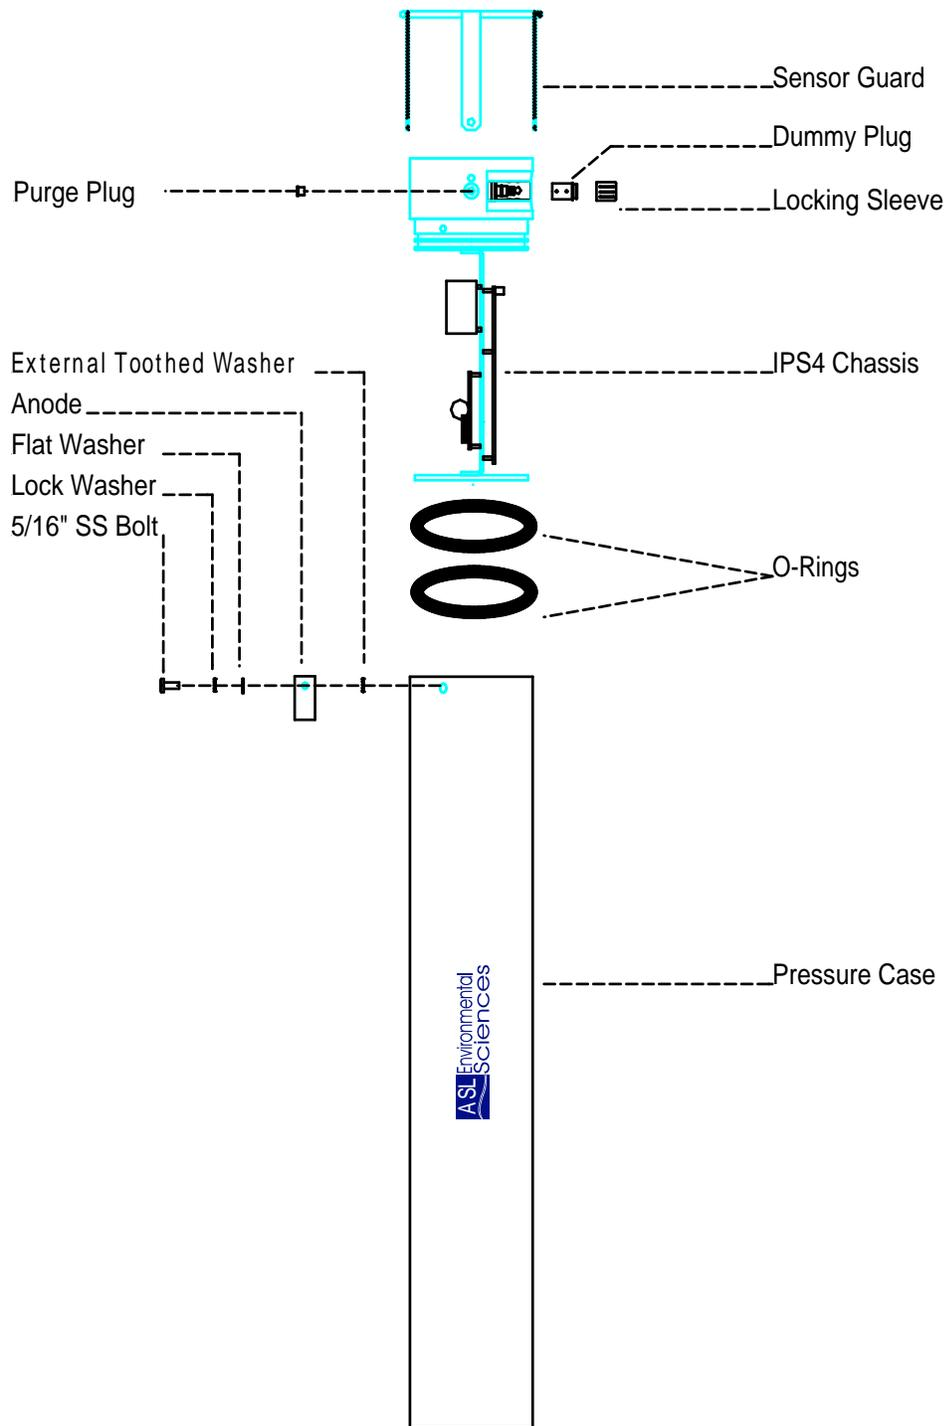

Figure 7
It can now be lowered into the pressure case. Align the end cap so that the holes on the pressure case line up with the holes on the end cap. Slowly place the electronics chassis into the pressure case. Push evenly on opposite sides of the end cap to seat it against the upper portion of the pressure case. The anodes should be checked and replaced if necessary to ensure adequate corrosion protection. See section 2.5 Anode Installation for further instructions. Replace the sensor guard and insert and tighten the three retaining bolts and hardware. Inspect the O-ring on the purge plug and place the plug back in to the end cap. **Note; The purge plug must be replaced before the instrument can be placed in the water.** See Figure 7 for a full assembly drawing.
A full chassis assembly drawing follows: (Figure 7)
- Unplug the Interface cable from the IPS4 and insert the Dummy Plug on to the bulkhead connector. (See Figure 7) Note be sure to bleed all of the air from the dummy plug before attaching the locking sleeve. Any trapped air will cause the plug to release from the bulkhead connector. A light amount of Dow-Corning DC-111 (or equivalent) lubricant on the bulkhead connector and dummy plug will make it easier to connect and remove the plug. The lubricant will also help provide a water-tight seal during deployment. Consult Appendix H for more information on connector installation and maintenance. **Improper connector maintenance may seriously endanger a successful deployment.**